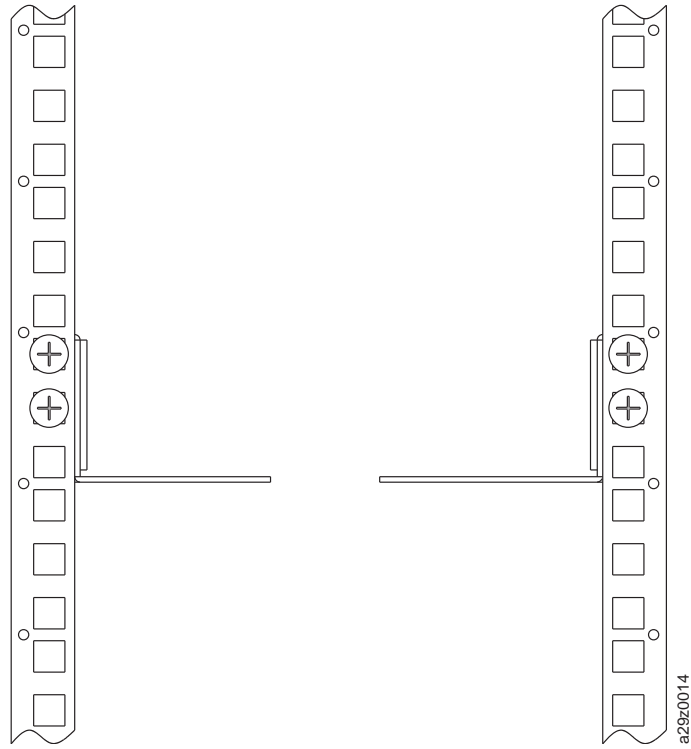

Figure 21. Rack mount screw locations for front vertical rails
2. Determine the location in your rack for your library to be installed. With a pencil, mark the location on the front vertical rails (Figure 21 on page 29) and rear vertical rails (Figure 22 on page 29) in your rack.
6. Install the rail assemblies into the rack (Figure 26 on page 32). Ensure the 3 holes in the front of the unit align with the 1U space marked on the vertical rails in Step 2. Secure the rails to the rack with 4 flat-head screws **9** on each side of the rack. Use both of the two screw locations on the rear of the rack rail (Figure 22 on page 29). Use the top and middle screw locations on the front of the rack rail (Figure 21 on page 29).